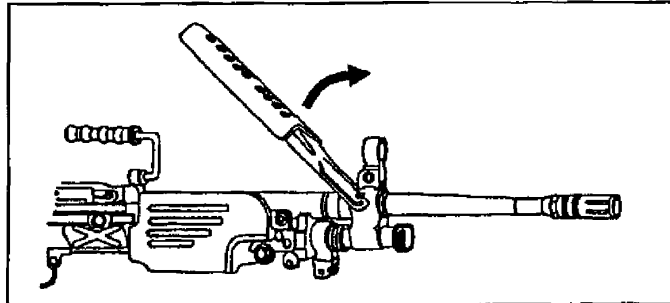

Figure 071-312-4025-6. Removal of the heat shield
d. Remove the barrel (figure 071-312-4025-7).
- (1) Ensure the folding handle on the new style barrel is in carrying (up) position.
- (2) Depress the barrel locking lever with your left hand. Grasp and lift the carrying handle with your right hand. Push the barrel forward.